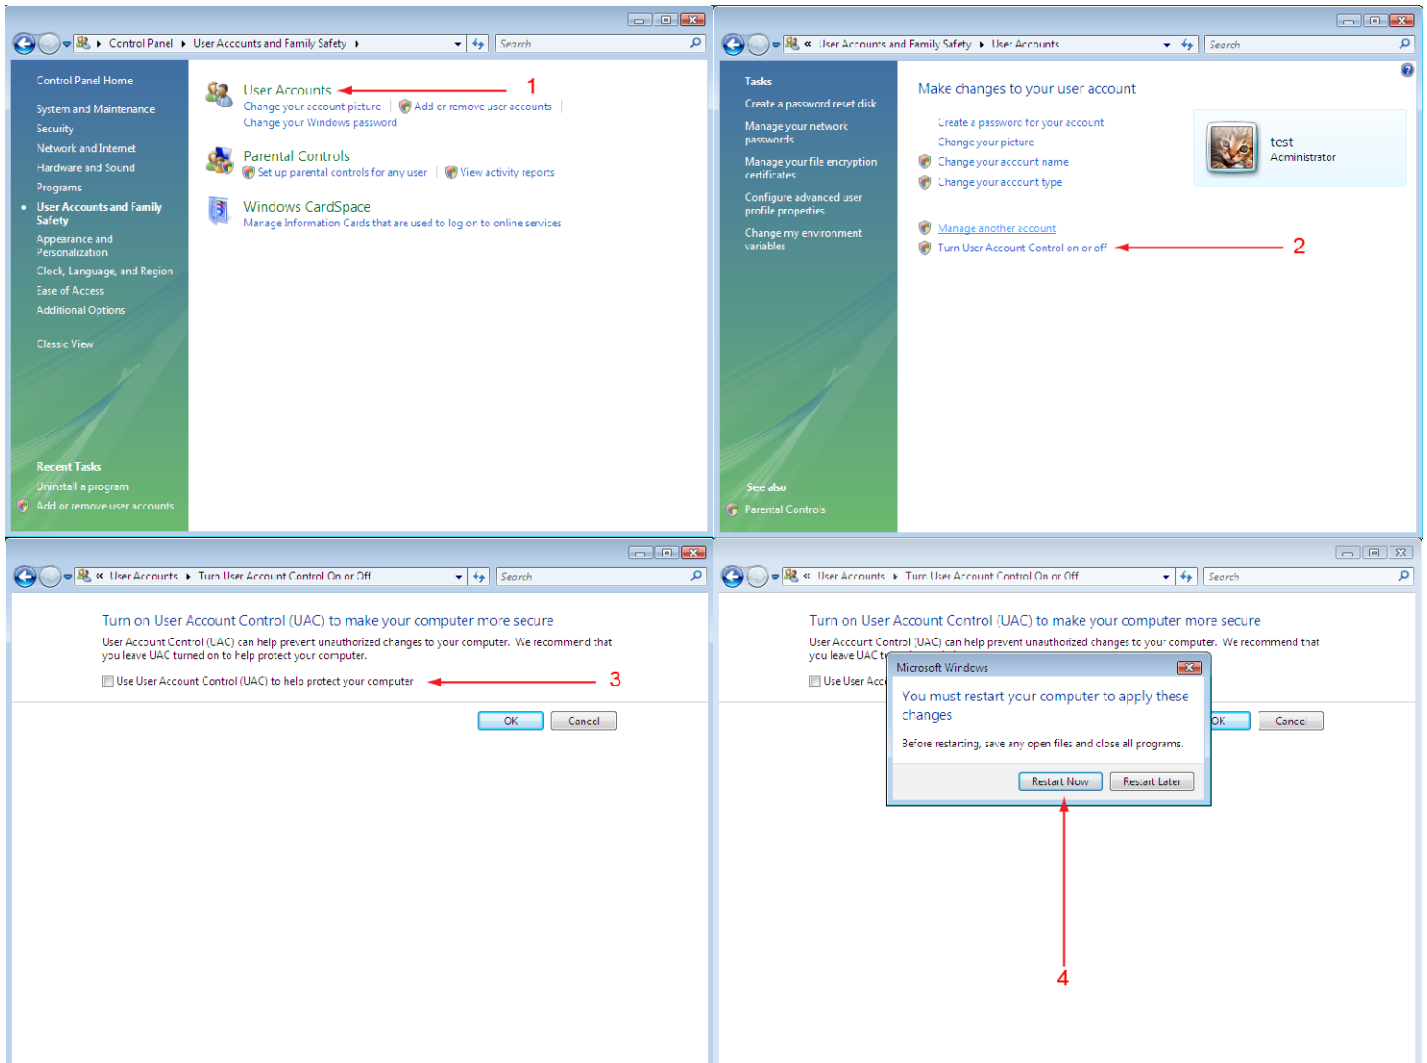

Figure 3-2. Windows Vista User Account Control
- 1) For Windows Vista users only, navigate to USER ACCOUNTS AND FAMILY SAFETY using the control panel and proceed to remove USER ACCOUNT CONTROL (UAC) as shown in Figure 3-2. The checkbox must be unchecked for UAC. Restart the PC as necessary.